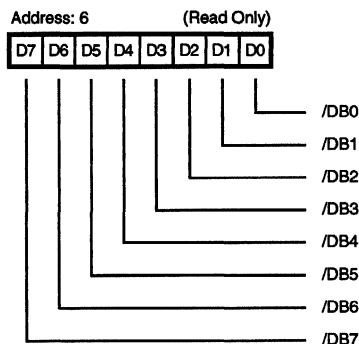

Figure 20. Input Data Register
**Input Data Register Address 6 (Read Only).** The Input Data Register (Figure 20) is a read-only register that is used to read latched data from the SCSI Bus. Data is latched either during a DMA Target receive operation when /ACK goes active or during a DMA Initiator receive